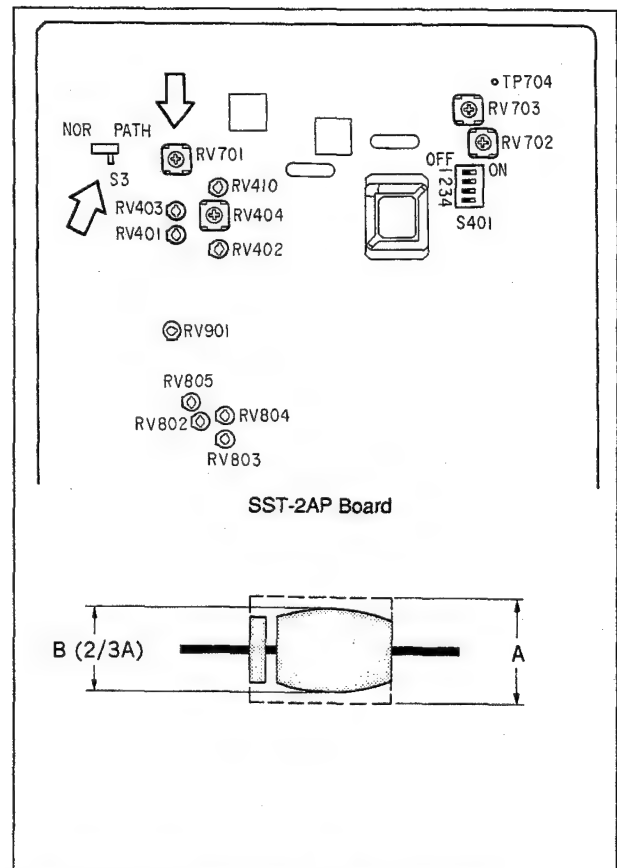

Fig. 6-2-3 Entrance side fine adjustment
1. Set S3 switch on SST-2AP board to "PATH", and rotate RV701 counterclockwise to reduce RF wave shape amplitude to 2/3. (See Fig. 6-2-3.)
1. Set the S3 switch on SST-2AP board to "PATH", and rotate the RV701 counterclockwise to reduce RF wave shape amplitude to 2/3. (See Fig. 6-2-3.)